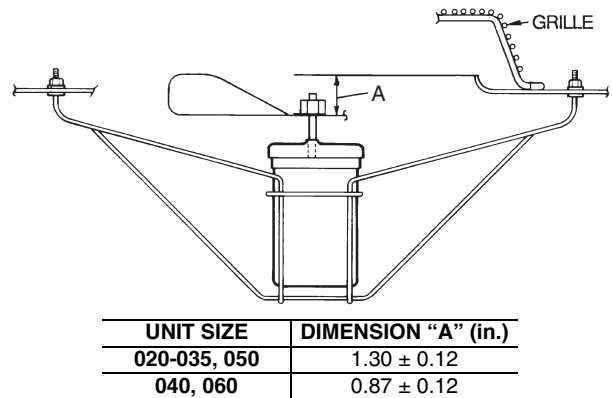

**Fig. 49 — Condenser-Fan Adjustment
4. Adjust fan height on shaft using a straightedge placed across venturi and measure per Fig. 49.